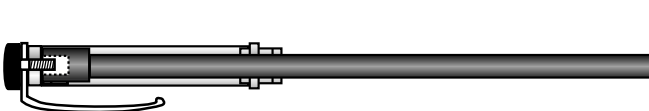

figure 6
- Shaft "A" into the cap body pushing up against the solid end of the plug (Figure 6). Hold the barrel tightly in your fist while tapping on the end of the shaft with a hammer. Sharp forceful taps will dislodge the cap/clip and the plug.